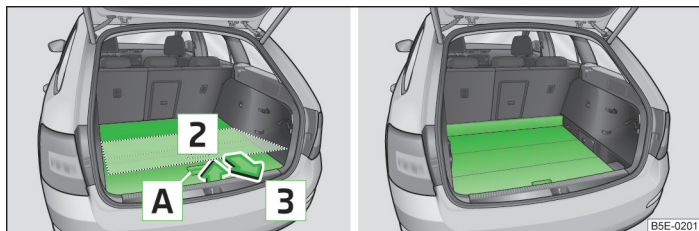

Fig. 97 Set variable loading floor to the lower position / variable loading floor in the lower position
- Grasp the rear of the variable loading floor by the handle **A** » Fig. 97.